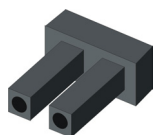

Figure 1-11 Fiber-Optic Protective Plug
- **Fiber-optic protective plug** - For safety and port transceiver protection, fiber-optic protective plugs (Figure 1-11) must be inserted in all director ports without fiber-optic cables attached. The director is shipped with protective plugs installed in all ports.